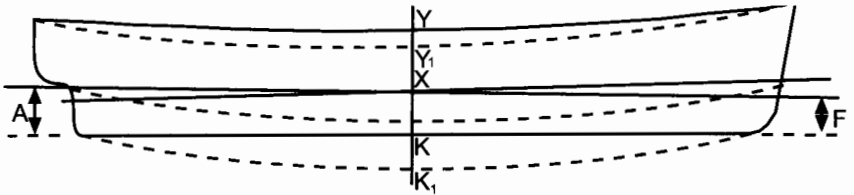

Fig. 25.1(d)
When a ship is neither hogged nor sagged the draft amidships is equal to the mean of the drafts forward and aft. In Figure 25.1(d) the vessel is shown in hard outline floating without being hogged or sagged. The draft forward is F, the draft aft is A, and the draft amidships (KX) is equal to the average of the drafts forward and aft.
Now let the vessel be sagged as shown in Figure 25.1(d) by the broken outline. The draft amidships is now  $K_1X$ , which is equal to the mean of the drafts forward and aft (KX), plus the sag ( $KK_1$ ). The amount of hog or sag must therefore be taken into account in calculations involving the draft amidships. The depth of the vessel amidships from the keel to the deck line ( $KY$  or  $K_1Y_1$ ) is constant being equal to the draft amidships plus the freeboard.